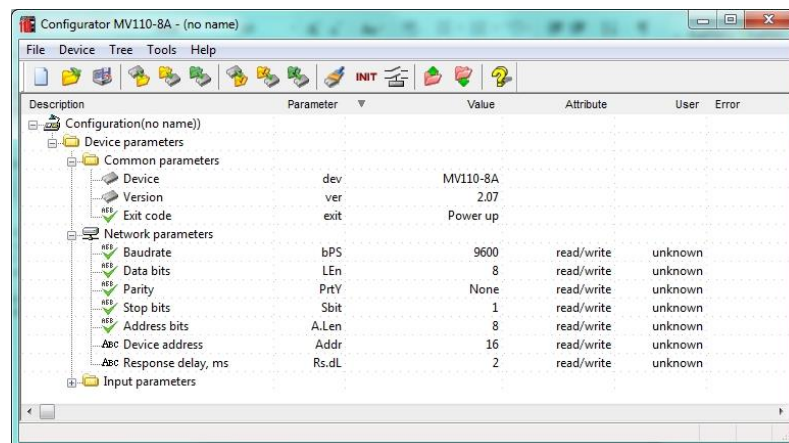

Fig. 7.2 M110 Configurator main window
- The main window with the device mask opens. Use the “Device>Read all” menu path to read the user network settings from the device (see Fig. 7.2).